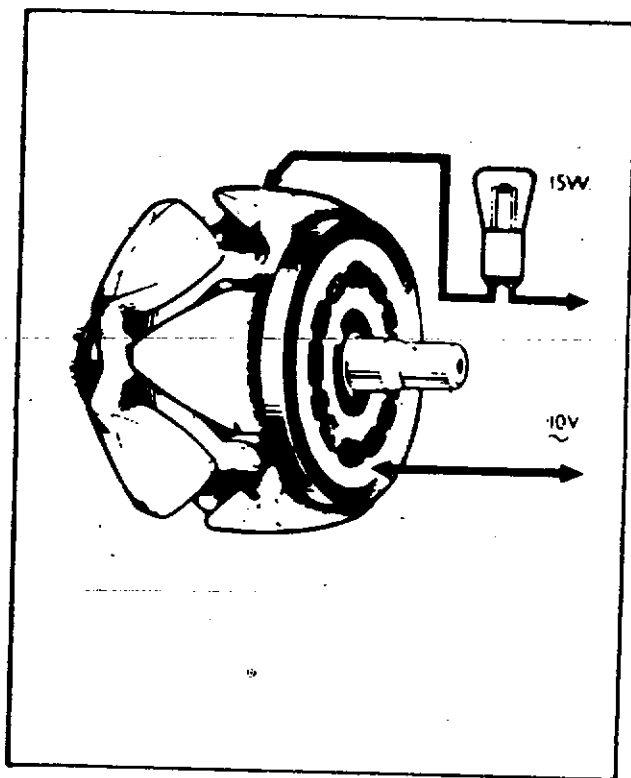

Fig. 25 – Insulation Test
2. Test for defective insulation between one of the slip-rings and one of the rotor poles using a 110-volt A.C. mains supply and 15-watt test lamp (Fig. 25). If the lamp lights the coil is earthing and a replacement rotor/slip-ring assembly must be fitted.